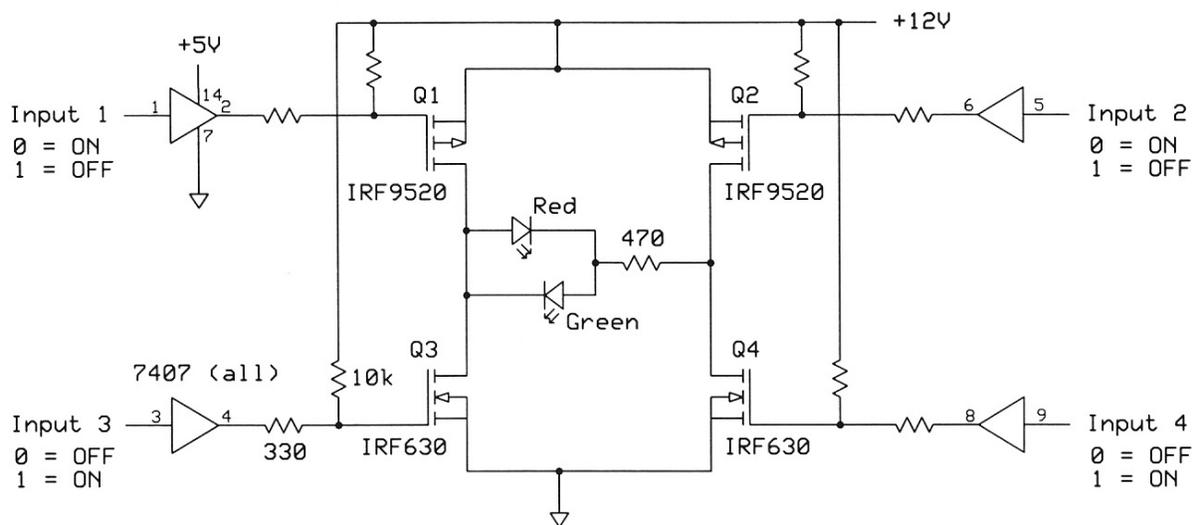

Figure 23.10.
- f. Turn off power and repeat steps c through e for the remaining low-side and high-side MOSFET switches. After you have wired and tested each side of an H-bridge circuit, insert two LEDs, one green and one red between the drain connections on each side of the H-bridge circuit as shown in **Figure 23.10**. The LEDs provide a simple way to test the entire bridge circuit. This circuit uses only one current-limiting resistor for both LEDs. Do you know why?
Table 23.2 provides all 16 logic states for the 7407-buffer inputs. Use information in **Figure 23.10** to determine how each state affects the circuit and write the outcome in the Action column. Hint: Remember to consider ALL four MOSFET switches, not just those on one side of the H-bridge circuit. The table includes two reported actions to give you a quick start.
Table 22.3 lists the 16 input conditions for the four inputs shown in my circuit (**Figure 23.10**), and the Action column shows what happens for each. Seven settings cause short circuits, which you must avoid. Two settings control the LEDs and one setting turns off all four MOSFETs.
OPTIONAL: Given the test circuit in **Figure 23.10**, could you modify it to indicate short circuits? If so, what changes would you make and what components would you add or remove? Find out in the Answers section at the end of this experiment.